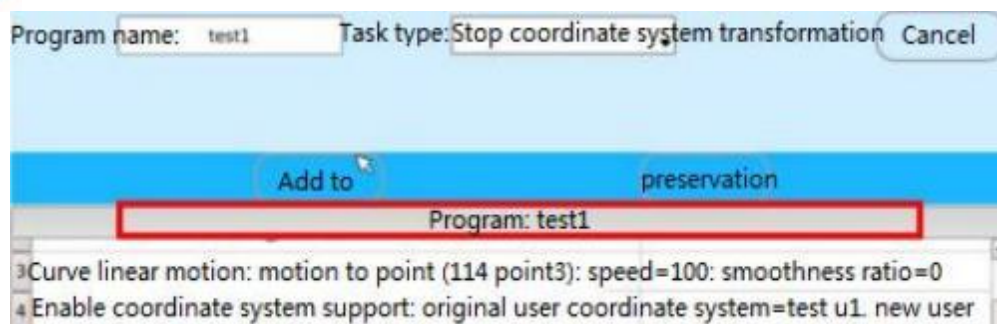

Figure 16.4 When creating a new point, you can select whether to associate the tool coordinate system
(1) When establishing the user coordinate system, the reference point needs to be associated with the corresponding tool coordinate system. The teaching points P1-P3 in the program also need To associate the corresponding tool coordinate system. As shown in Figure 16.4, it is necessary to remove the "√" in front of "Do not use" and select the tool coordinate system currently used.